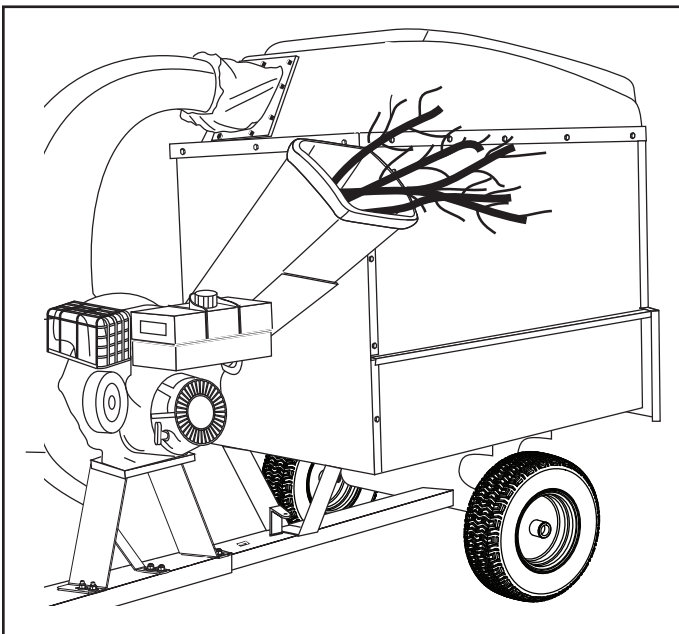

FIGURE 17
1. Material such as stalks or heavy branches up to 3" in diameter may be fed into the chipper chute as shown in figure 17.